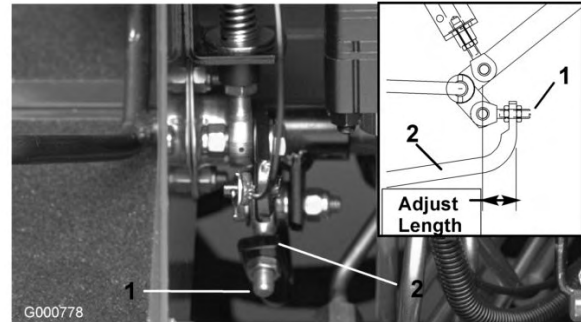

Figure 73
4. Adjust jam nuts on pump rod end to move pump control tube forward to eliminate forward creep or rearward to eliminate rearward creep (Figure 73).